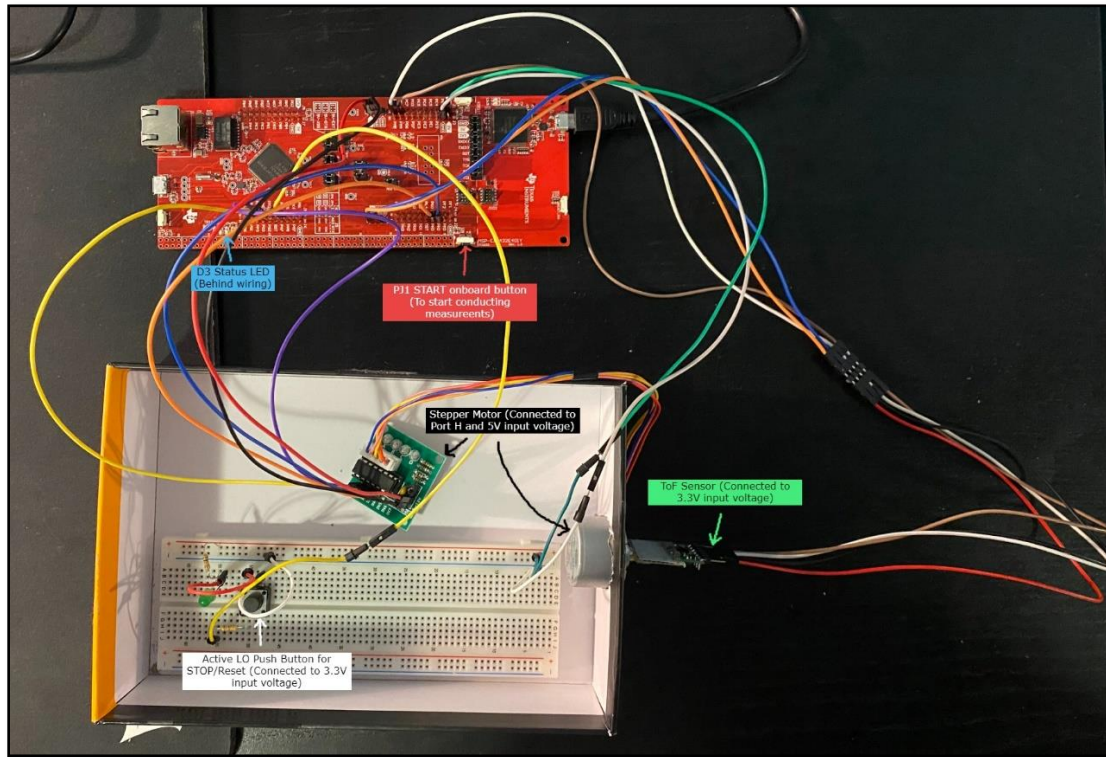

Figure 1: Circuit Configuration with all Components
1. Connect and configure the circuit as shown in *Figure 1*.